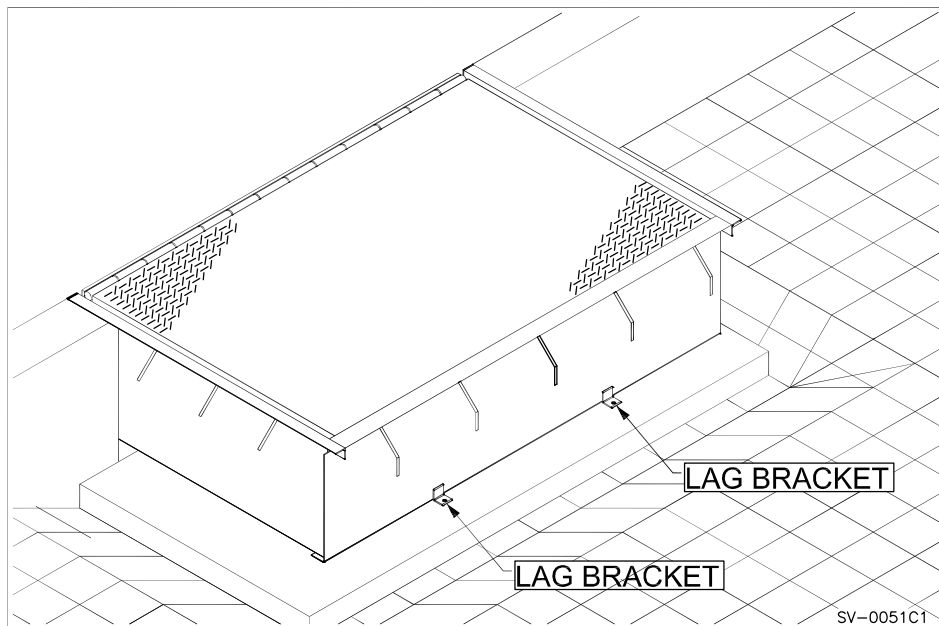

Figure 42: Dock Leveler in Position
3. ___ Position the dock leveler into the foundation cutout (see “Figure 42: Dock Leveler in Position” on page 34).
6. ___ Securely brace the dock leveler to prevent any movement or “floating” during the pouring of the concrete. Use lag bolts in the provided lagging brackets to assist in securing the dock leveler (see “Figure 42: Dock Leveler in Position” on page 34). Note that these brackets are intended to assist in bracing the dock leveler and that consideration and use of additional supporting means may be required. Prior to installing the lags confirm that if shims are utilized the lag bolt length is increased to accommodate for the shimming, allowing proper and sufficient lag penetration into the concrete.